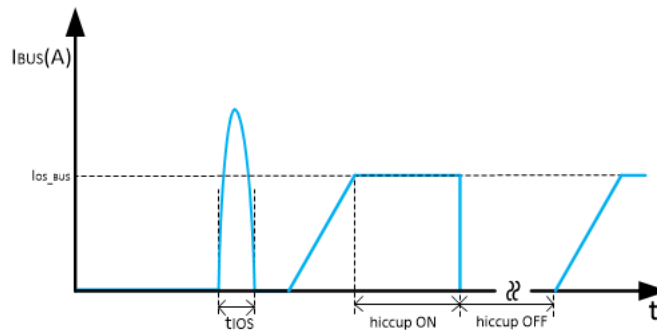

图 10-5. Response Time to BUS Short-Circuit
- The first condition is when a short circuit or overload is applied to the USB output when the device is powered up or enabled. There can be inrush current and once it triggers the approximate 8-A threshold, a fast turnoff circuit is activated to turn off the USB power switch within t_{IOS_USB} before the current limit control loop is able to respond (shown in 图 10-5). After the fast turnoff is triggered, the USB power switch turns off for approximately 200 μ s, and restarts with a soft start. If the USB port is still in overcurrent condition, the short circuit and overload hold the output near zero potential with respect to ground and the power switch ramps the output current to I_{OS_BUS} . If the overcurrent limit condition lasts longer than 4.1 ms, the corresponding USB channel enters hiccup mode with 524 ms of off-time and 4.1 ms of on-time.